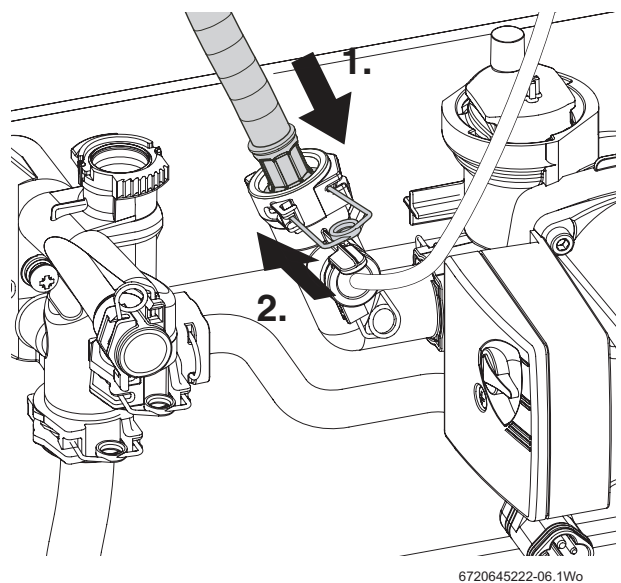

Fig. 9 Expansion vessel connection
1. Refer to figure 9 and insert the expansion vessel flexible pipe it to the fitting on the pump.